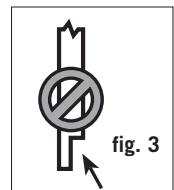

fig. 3
Step 2: Install railing posts prior to installing deck boards. Cedar or pressure-treated pine 4x4 railing posts provide the structural strength for the railing. The length of each post is determined by the total of the joist width (7-1/4") + decking thickness (1") + railing height (36") + spacing for post cap (1-1/4") = 45-1/2". **Important: Do not notch the 4x4 railing posts.** Notching will reduce the strength of the post and could result in railing collapse or failure (fig. 3).